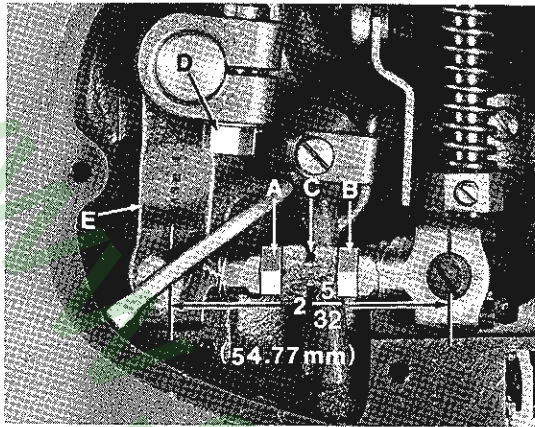

FIGURE 13
The distance between the centerline of the spreader connecting rod ball joints should be  $2 \frac{5}{32}$  inches (54.77 mm). Adjustment is made by loosening locknut (A, Fig. 13) (it has a left hand thread) and nut (B). Turn the connecting rod (C) as required. Then retighten both nuts, first nut (B) and then nut (A).
Clearance between the connecting rod ball joint and machine casting must be maintained. To obtain sufficient clearance, loosen nut (D, Fig. 13) and reposition arm (E) as required. Retighten nut (D).